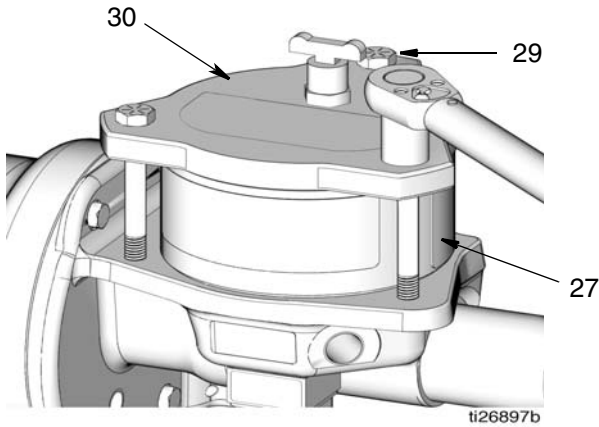

FIG. 16
10. Use a wrench to remove tie rods (29). Loosen the rods in a diagonal pattern, taking care to loosen each rod gradually until all rods are completely loosened. Remove tie rods (29). See FIG. 16.
11. Remove cover (30) from reservoir (27) (FIG. 16).